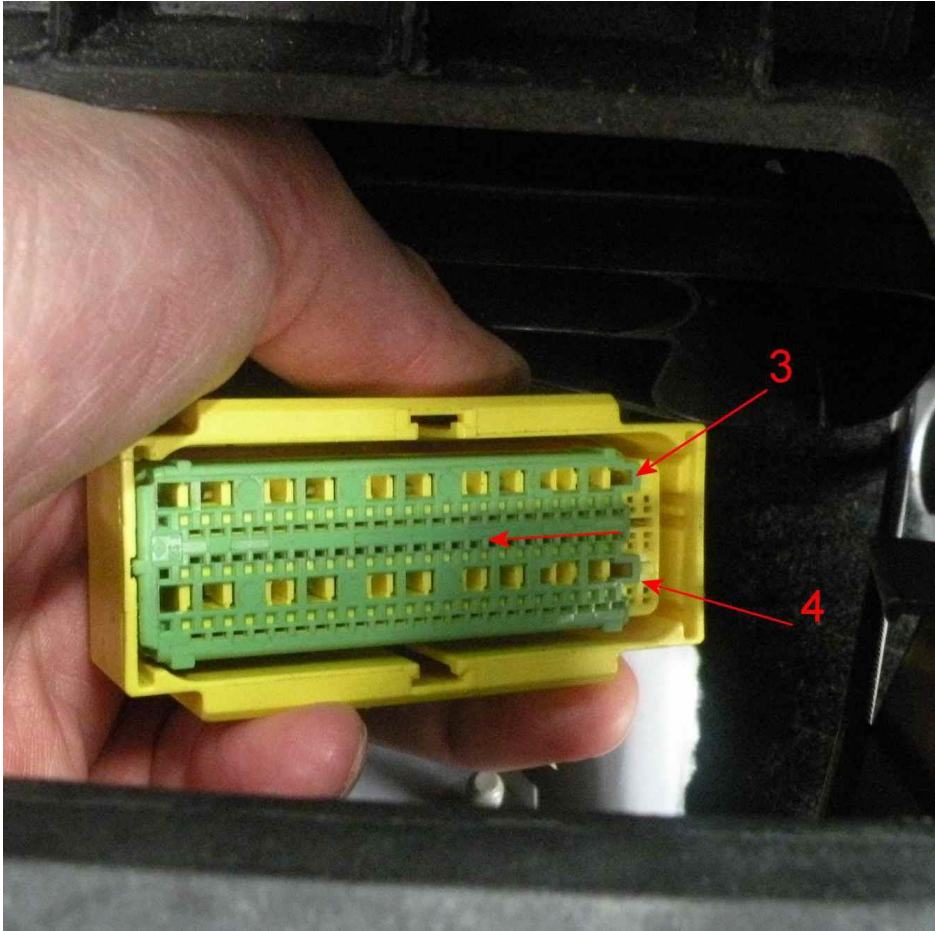

Figure 11
20. Lift and slide the secondary keeper over the two barbs at points 3 and 4 to reveal the terminal lance access ports (see Figure 11)